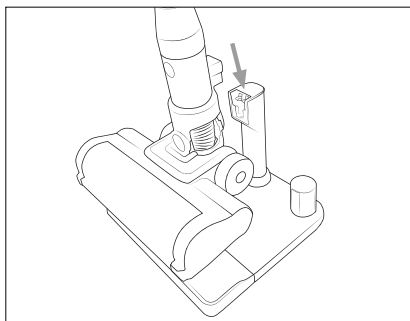

Fig. 6
- ▶ The appliance is equipped with a temperature monitor to protect the battery ❶. At high ambient temperatures, the charging process may be interrupted or the appliance may switch off automatically in rare cases:
- The battery indicator ❷ flashes at one second intervals during charging. Charging is interrupted and automatically resumed as soon as the temperature of the appliance has dropped.
- The battery indicator ❷ flashes ten times at intervals of half a second during operation. The appliance switches off automatically. Allow the appliance to cool down for about 20-30 minutes before switching it on again.
- ◆ Place the appliance on the vacuum stand ❶ of the docking station ❶. Make sure that the charging contacts ❷ of the appliance and the docking station ❶ are in full contact. The battery indicator ❷ starts flashing and the charging process starts (see Fig. 6 and 7).